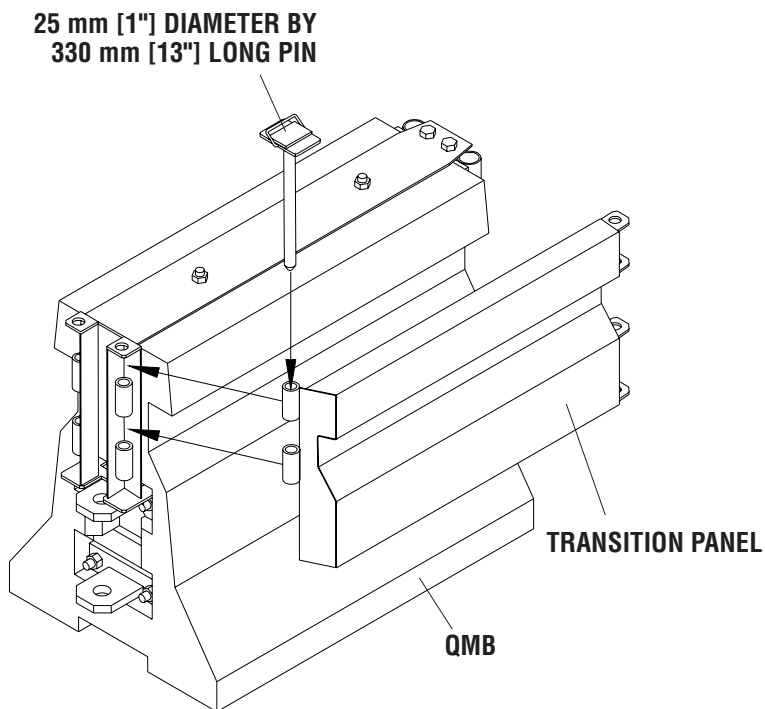

Figure 12
Step 4: Install Transition Panel (See Figure 12)